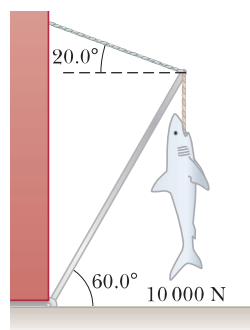

Figure P12.49
49. A 10 000-N shark is supported by a rope attached to a 4.00-m rod that can pivot at the base. (a) Calculate the tension in the cable between the rod and the wall, assuming the cable is holding the system in the position shown in Figure P12.49. Find (b) the horizontal force and (c) the vertical force exerted on the base of the rod. Ignore the weight of the rod.